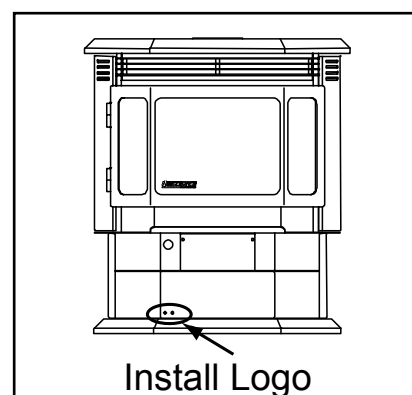

Figure 20.4
3. Install the logo on the lower left side of the center panel by pressing the 2 studs into the pre-drilled holes. See **Figure 20.4**.